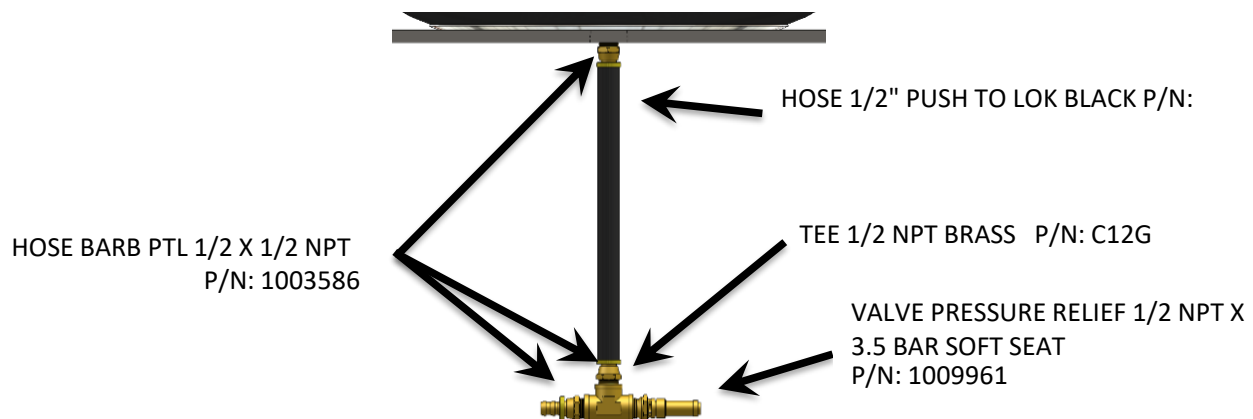

Fig. 1
- STEP 6** Assemble the Pressure Relief Tee, use pipe tape at all connections. (See Fig. 1)